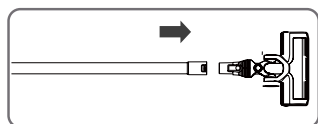

Figure 3
- Insert the tube end of the electric floor brush into the open end of the aluminium tube and ensure that it is securely attached. You should hear a click when it locks in place (Figure 3).